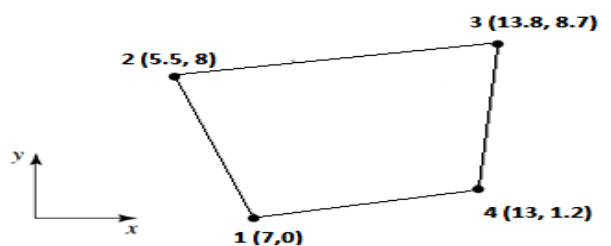

Fig. 4
8. (a) Fig. 4 shows a quadrilateral element in global coordinates. Show that the mapping correctly describes the line connecting nodes 2 and 3 and determine the (x, y) coordinates corresponding to $(\xi, \eta) = (0.3, 0.6)$. [(CO5)(Analysis/IOCQ)]